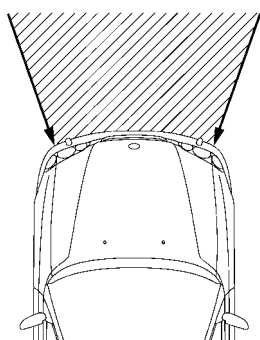

Fig. 1
- When the vehicle collides in the hatched area (Fig. 1) and the shock is larger than a predetermined level, the airbag and the seat belt pretensioner are activated automatically. The airbag sensor is characteristically turned in such a way that can judge the need for ignition in collisions within the hatched area.